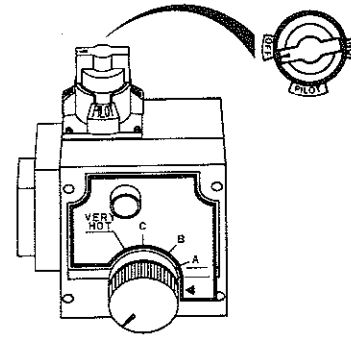

Figure 10
4. Turn gas control knob clockwise (↻) to "OFF" position. Knob cannot be turned from "PILOT" to "OFF" unless knob is depressed slightly. **DO NOT FORCE.** (Figure 10, page 15)
5. Wait five (5) minutes to clear out any gas. If you then smell gas, **STOP!** Follow "B" in the safety information above on this label. If you don't smell gas, go to the next step.